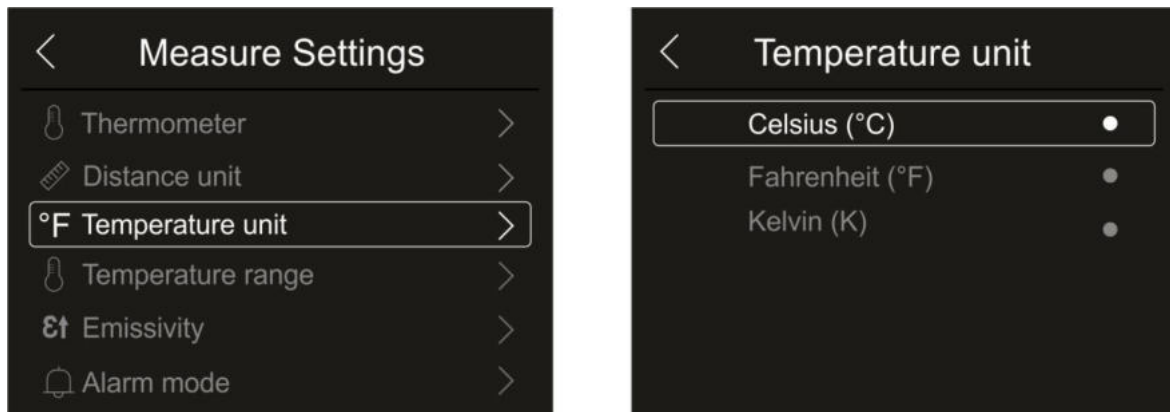

Fig. 23: Menu Setting the temperature measuring unit
1. Touch the item “Temperature unit” to set the measuring unit of temperature. The screen in Fig. 23 – right side appears on the display: